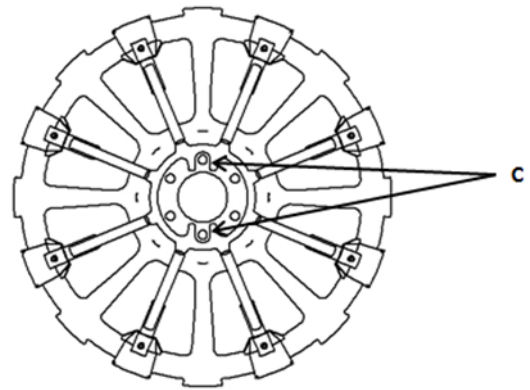

Figure 44: Center Mount Wheel Filler Hole Alignment
1. Remove the lock nut, lock washer, and flat washer from bolts (B) as shown in Figure 44.